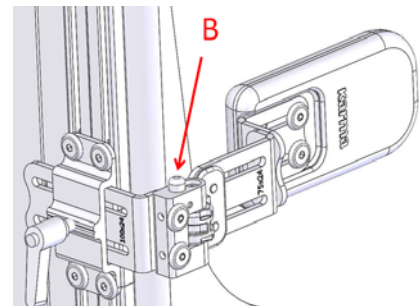

Figure 5-128
5.3.10.3 Upon pressing the shaft B, the trunk support can be swung outwards. (Figure 5-128)